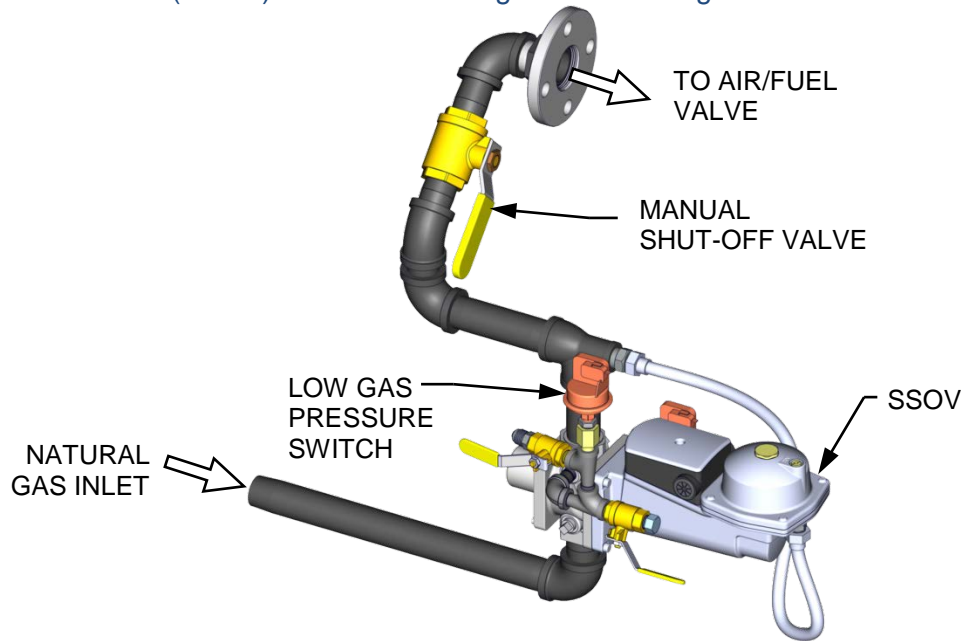

Figure 3-1a: BMK 750 & 1000 SSOV Location (P/N 22140-1)
2. The unit checks to ensure that the Proof of Closure (POC) switch in the downstream Safety Shut-Off Valve (SSOV) is closed. See Figure 3-1a through 3-1d for SSOV location.